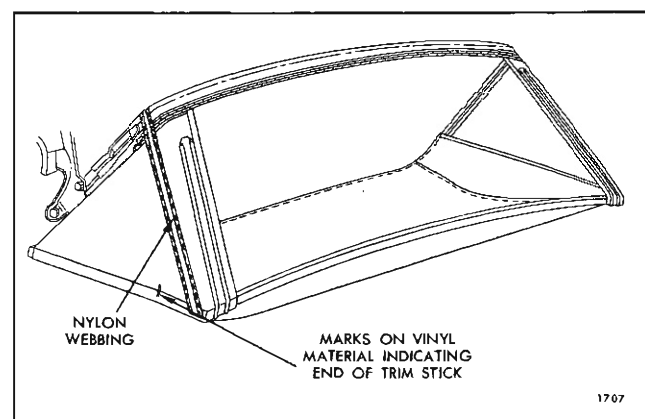

Fig. 2-I-41—Marking Back Curtain Material
1. Preset spacer sticks to shortest length and install between center and rear roof bow (Fig. 2I42). Adjust sticks so that dimension "X" in Figure 2I42 (measured along spacer stick from front upper rolled edge of rear roof bow to center of center bow) is 17 5/8".